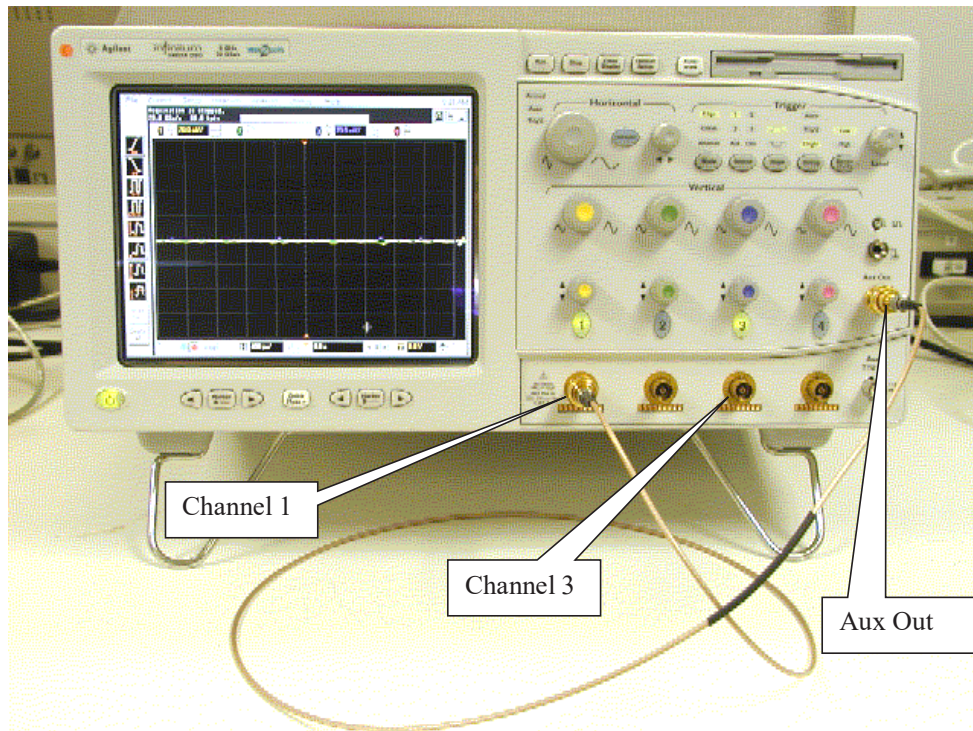

Figure 7 Vertical Input Calibration Connections (Cable on Channel 3 not shown).
- 1 Referring to the Figure 7 below, perform the following steps:
- 13 Referring to Figure 7 on page 1214, perform the following steps: